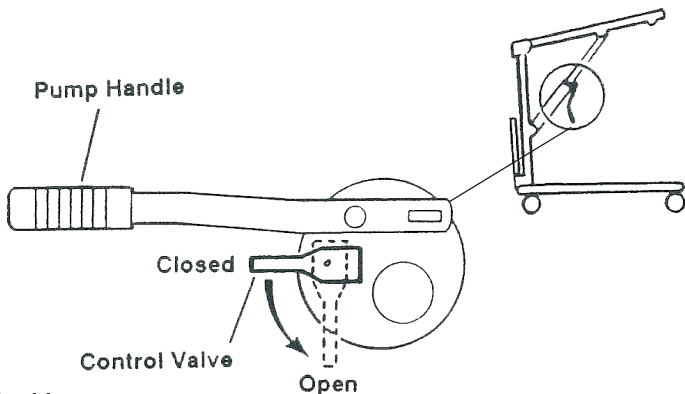

Fig. 14
2. Once the lift is in place, slowly open the control valve by positioning it away from the pump handle. See Fig. 14.